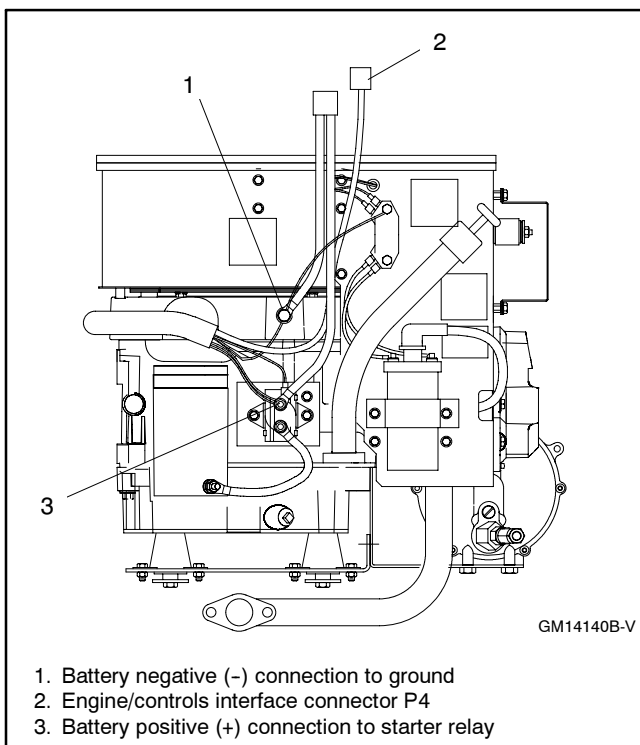

Figure 5-2 Connections
- Connect the engine/controls interface connector P4 to the control board. Use the extension harness if the extra length is needed. See Figure 5-2.
- Connect a starting battery to the terminals shown in Figure 5-2. Connect the negative lead last.